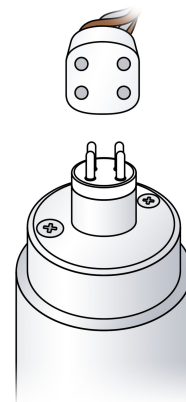

Fig 3
- Remove the Side Access Cover (Turn screw 90 clockwise or anti-clockwise). (Fig 3)
- CONNECT the lamp connector to the end of the UV making sure the connector is correctly aligned with the pins. (refer to Fig 3 on the previous page)